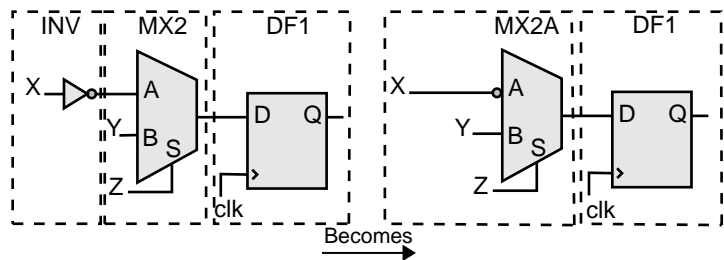

Figure 3-4. Logic Modules Decreased
- It implements the new combinational macro by combining the basic combinational macro from step 1 with its previous combinational macro in a design. For example, "MX2" and an inverter "INV" are combined into "MX2A." The total number of logic modules is decreased to one combinational and one sequential module, shown in Figure 3-4.